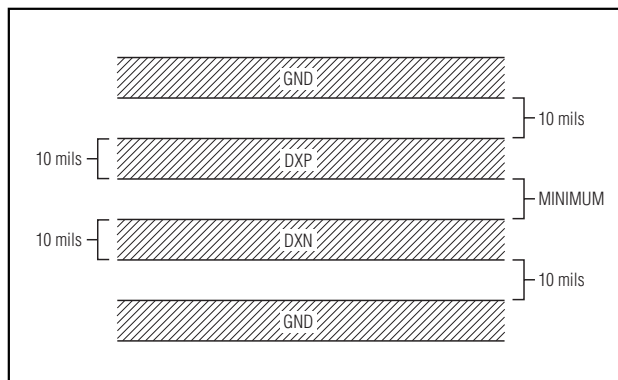

Figure 5. Recommended DXP-DXN PCB Traces
- 3) Route the DXP and DXN traces in parallel and in close proximity to each other. Each parallel pair of traces should go to a remote diode. Route these traces away from any higher voltage traces, such as +12VDC. Leakage currents from PCB contamination must be dealt with carefully since a $20M\Omega$ leakage path from DXP to ground causes about $+1^{\circ}\text{C}$ error. If high-voltage traces are unavoidable, connect guard traces to GND on either side of the DXP-DXN traces (Figure 5).